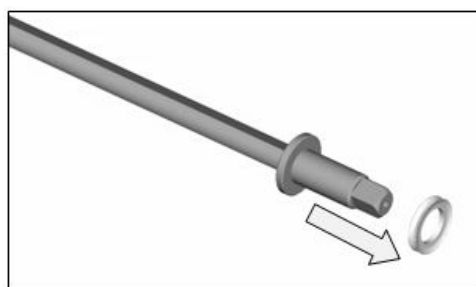

Fig.14
- Recover the seal gasket placed on the back of the beater (Fig. 14).